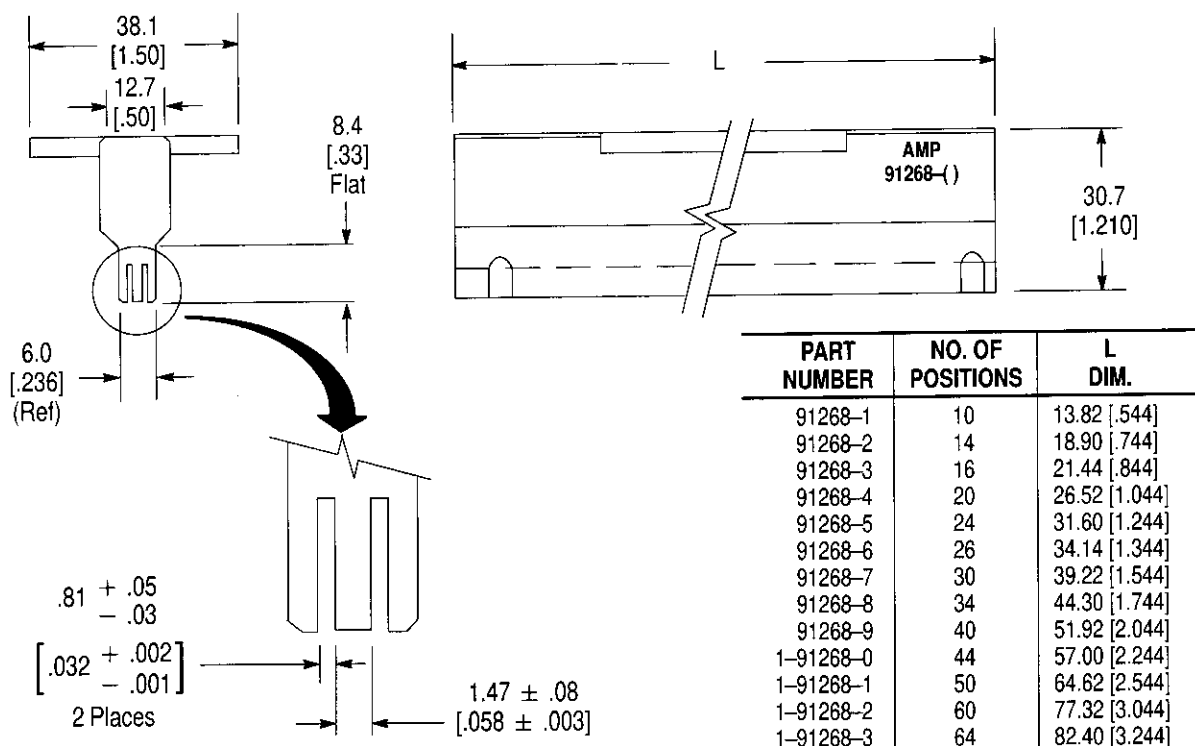

Figure 2
4. TOOL INSPECTION (Figure 2)
The seating tools listed in this instruction sheet should be inspected using the information provided in Figure 2. It is recommended that you inspect the tools immediately upon their arrival in your factory, and at regularly scheduled intervals to ensure that they have not been damaged.